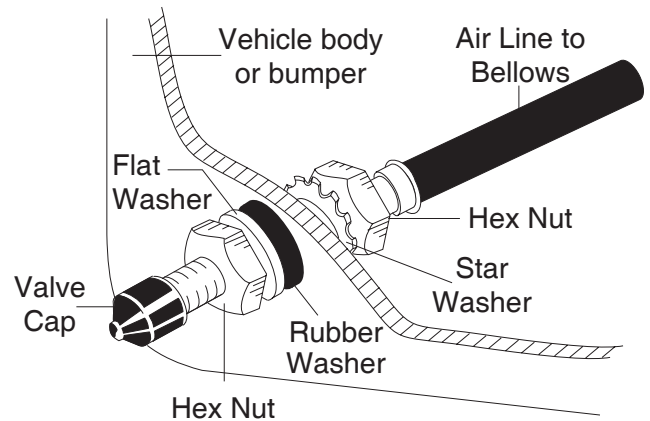

Figure 16
4. Refer to Figure 16 to assist with air valve installation.